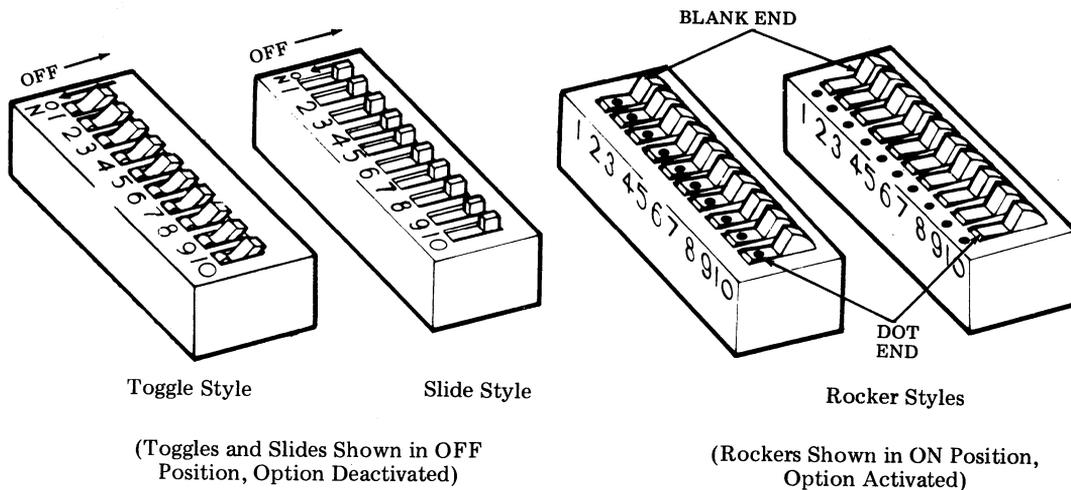

Fig. 22—Option Switches
6.03 Several styles of option selecting switches may be present on the printer and/or controller circuit cards (Fig. 22). The option selecting switches are of various sizes, having between four and ten toggles, slides or rockers, numbered accordingly. On toggle or slide type switches, options are activated by positioning the toggle or slide toward the ON designation. On rocker type switches, the dotted rocker end or the rocker end adjacent to a dot are positioned down (depressed) to activate an option. Conversely, to deactivate or switch OFF an option, position the toggle or slide away from ON or depress the blank end of the rocker switch.
6.04 The 410734 diode matrix circuit card is composed of several integrated circuit (IC) packs and 384 407336 diodes arranged in eight columns (bit 0 through bit 7) of 48 diodes each (see Fig. 22). The horizontal rows are designated R1 through R48 and the vertical columns are designated b0 through b7 in all subsequent optioning instructions of this section. Optioning consists of referring to the Station Feature and Option Record on W-Plan W-4RPXA and the service order and cutting and removing those diodes marked X.